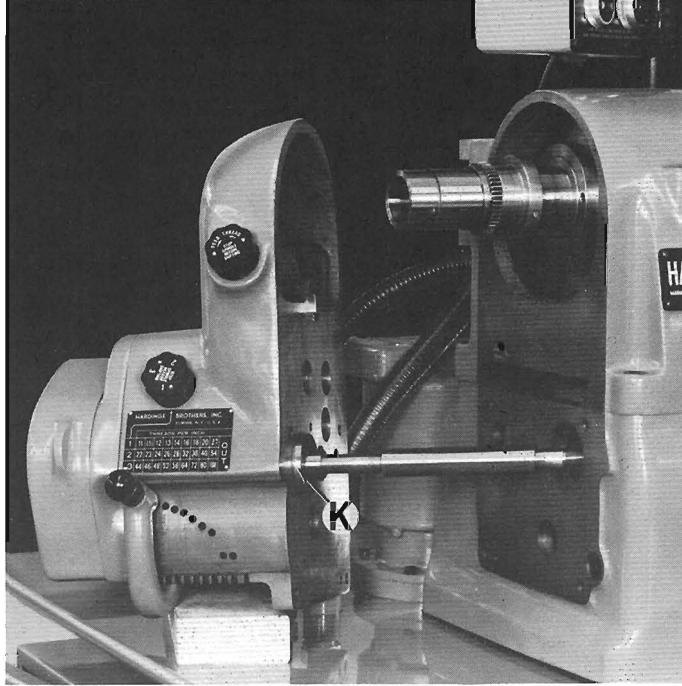

Figure 25 — Gearbox Removal
12. Pull gear box straight off to remove, Figure 25.
- Replace cluster shaft assembly, Figure 34. Position bearing "K" midway in casting as shown, Figure 25.